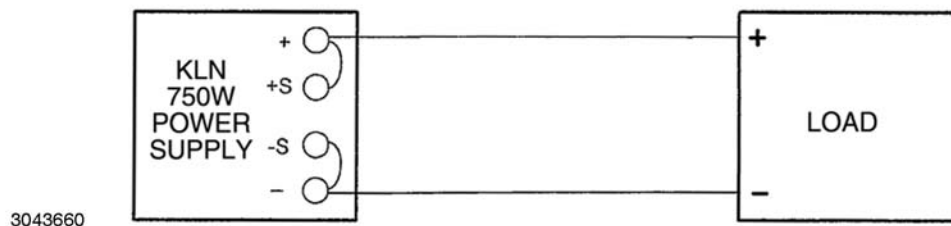

FIGURE 2-6. LOAD CONNECTIONS, LOCAL SENSING
- **IF LOCAL SENSING IS USED:** Install red and black sense leads supplied (see Figure 2-6).
Figure 2-6 shows a typical configuration using local sensing. Local sensing is recommended for a high noise or switching mode load such as d-c to d-c or d-c to a-c.